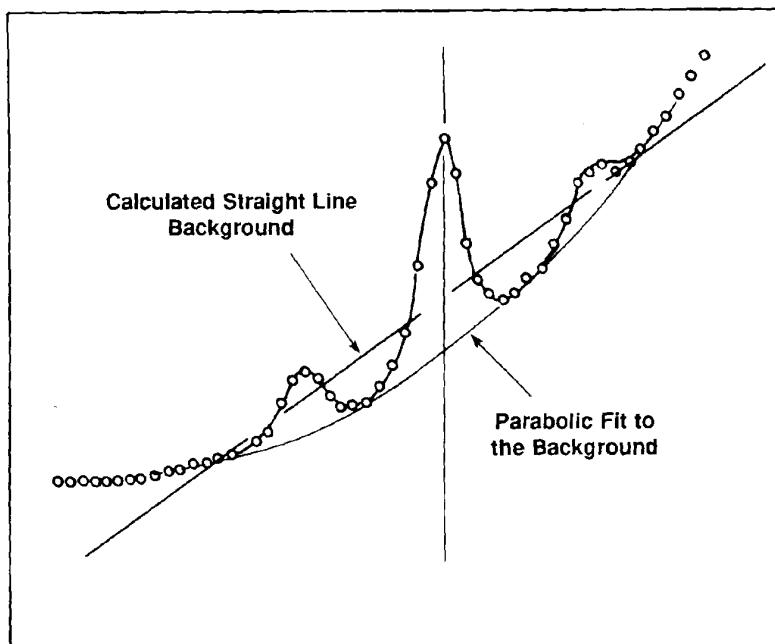

Figure 246. Parabolic Background.
- The peak sensitivity is 2 or higher; see Fig. 246.
Figure 246 shows this case for an actual spectrum.